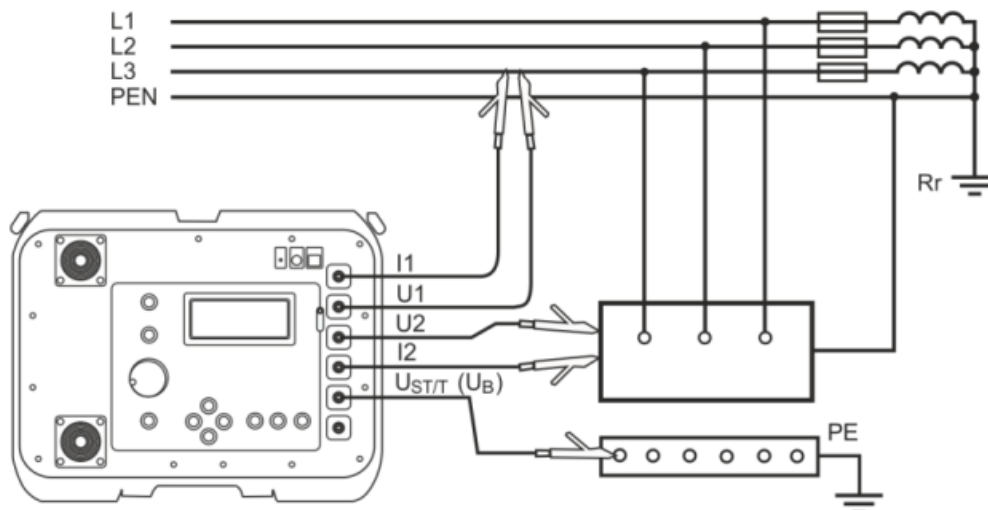
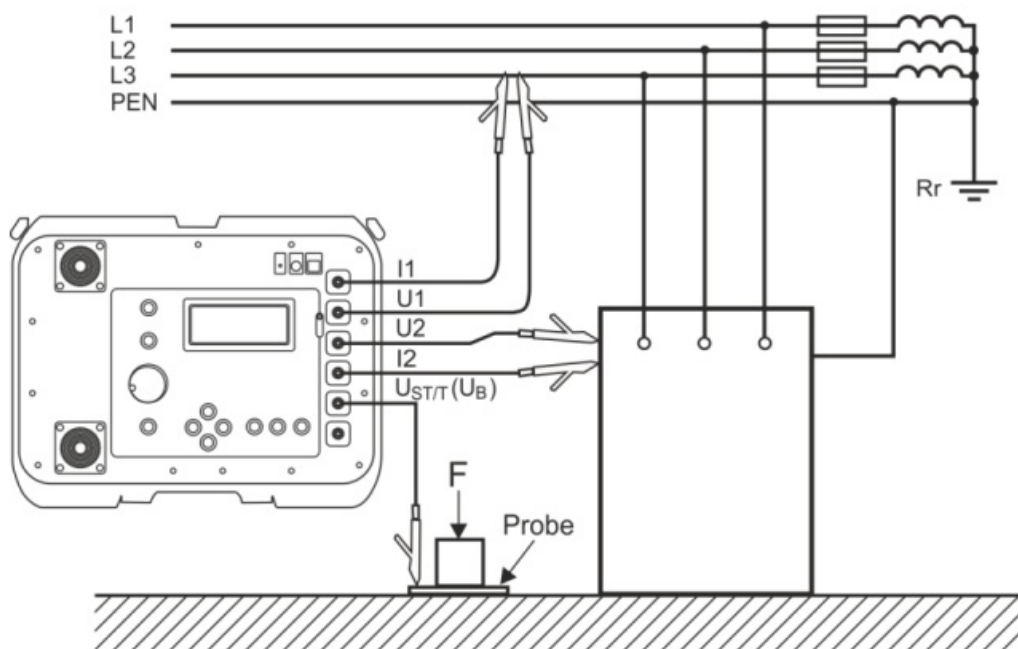

Fig. 14 Measurement of touch voltage U_{ST}
Fig. 15 Measurement of shock voltage U_T
- connect test leads according to Fig. 14 or Fig. 15:
human feet located on the ground (Fig. 15), whose properties and load are described by relevant standards.